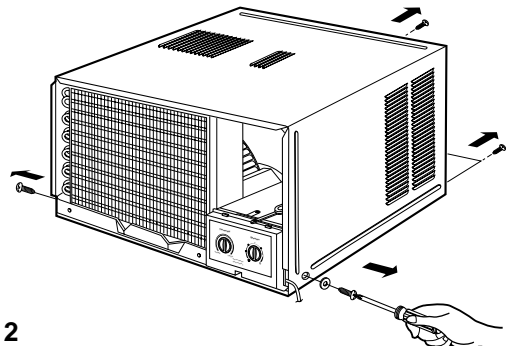

Figure 2
3. Pull the base pan forward. (See Figure 2)